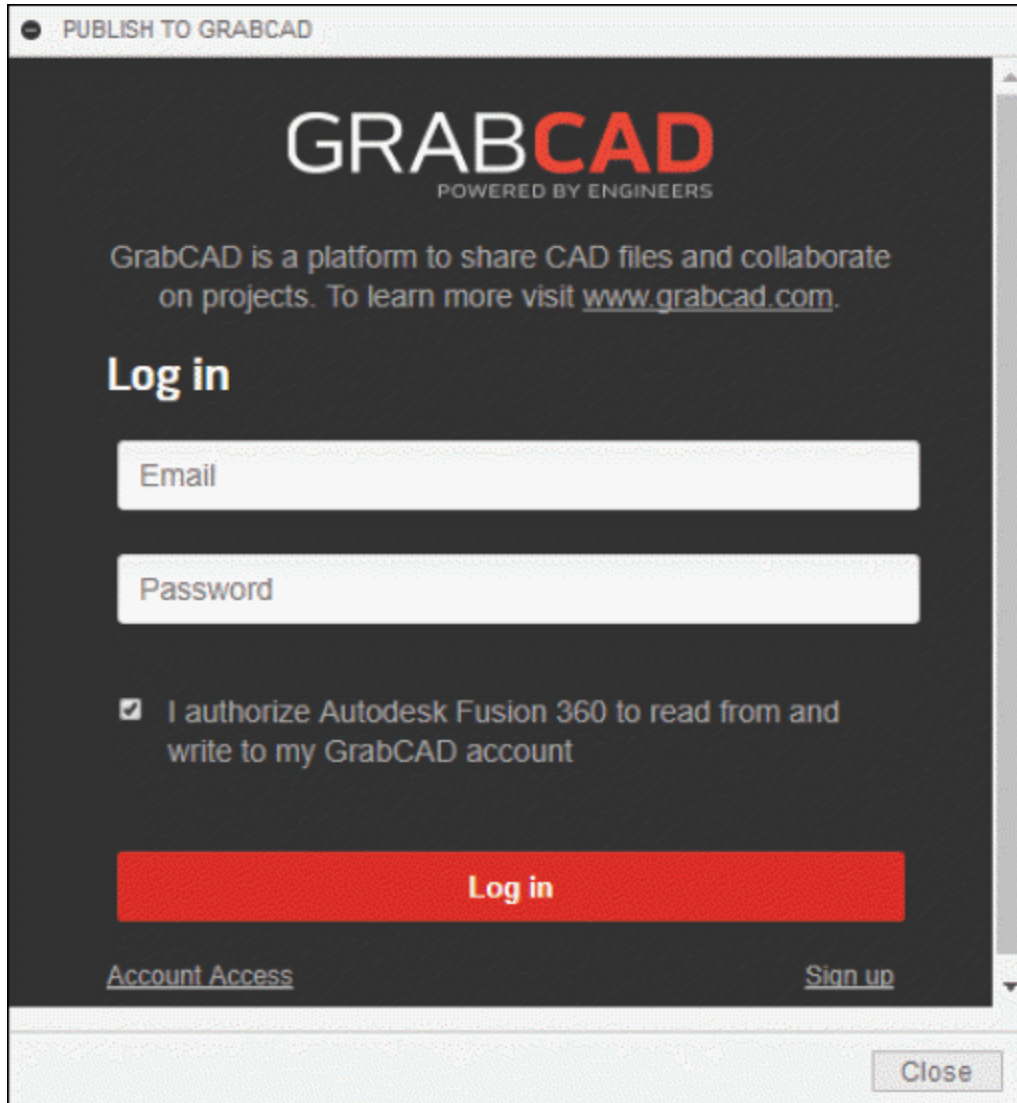

Figure-75. PUBLISH TO GRABCAD dialog box
- Click on **GrabCad** tool from **Share** cascading menu. The **PUBLISH TO GRABCAD** dialog box will be displayed; refer to Figure-75.